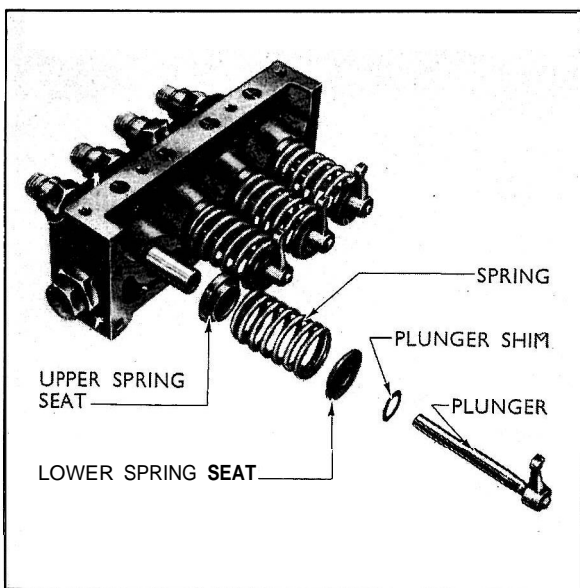

Fig. 23.
10. Remove the plungers, springs and spring seats from the barrels (see Fig. 23).
23. Turn off the fuel supply and remove the pump from the calibrating machine. Remove the pump housing and withdraw the plungers. Fit three plunger arm shims and the lower spring seat to each plunger. Locate the foot of the plunger on the centre of the tappet spacer, press the lower spring seat down against the tappet body and check for free movement of the plunger. Remove shims until free movement is felt. Each plunger must be checked on its respective tappet and free movement reduced to a minimum. Refit the spring upper seats (a thicker upper spring seat is fitted to the Mark III pump), springs and plungers complete with shims and lower spring seats to their respective barrels (see Fig. 23). Replace the assembled housing on the cambox, check that the plunger arms are correctly located in the tappet bodies and fit the securing spring washers and nuts, tightening them evenly and securely.